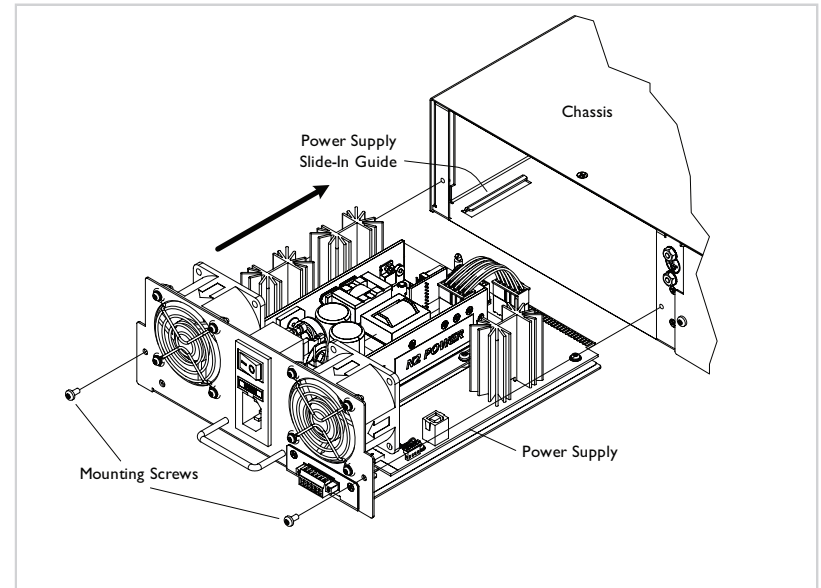

**Figure 9: Removing Power Module**
5. Carefully pull the Power Module from the chassis. See Figure 9.